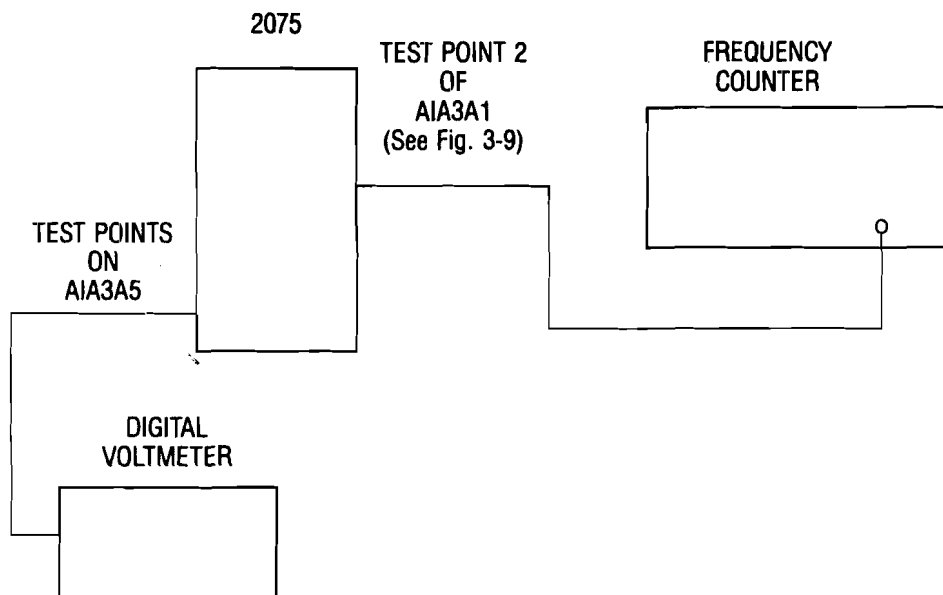

Figure 3-8. D TO A CONVERTER AND YIG DRIVER ADJUSTMENT SETUP
1. Turn the 2075 up on its left side and remove the bottom cover panel. The test setup is shown in Figure 3-8.